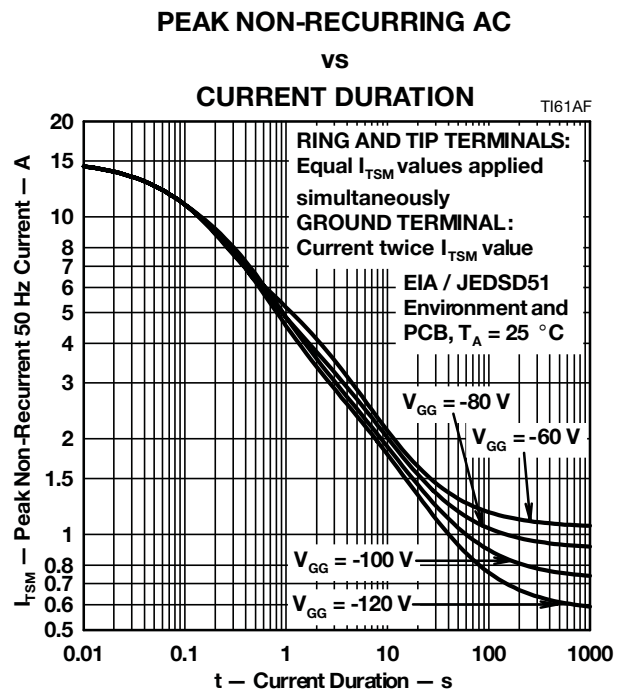

Figure 2. Non-Repetitive Peak On-State Current against Duration
3. Values for  $V_{GG} = -48\text{ V}$ . For values at other voltages, see Figure 2.